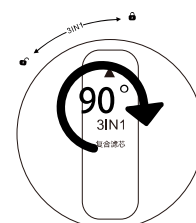

Figure 5
3. Gently press the filter element and rotate it 90° clockwise, ensure the triangle icon on top of filter element point at  icon(Figure 5).